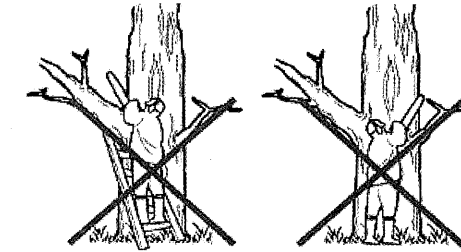

Fig. 27
8. Do not operate the product with arms fully extended or attempt to saw areas which are difficult to reach, or on a ladder. Never use the product above shoulder height (Fig. 27).